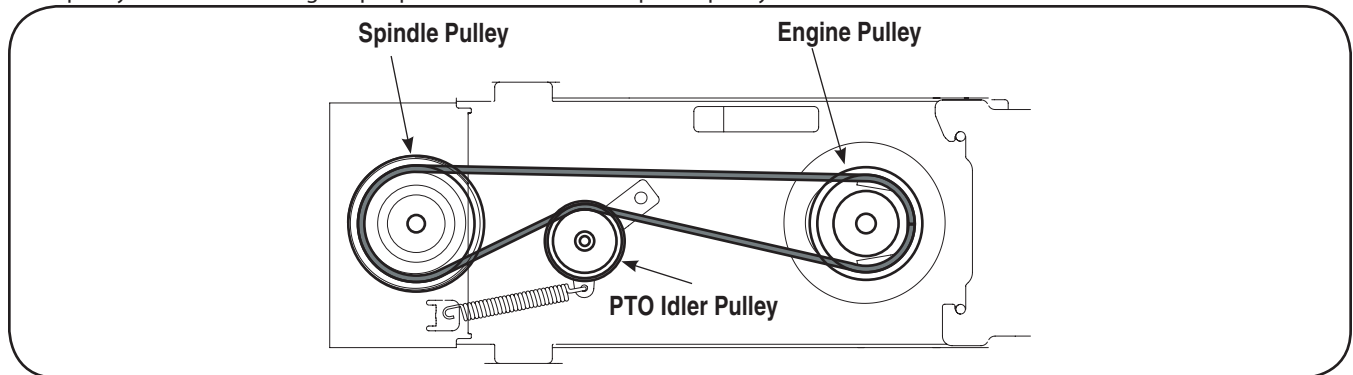

Figure 3-18
1. Attach and route upper drive belt around spindle pulley and idler pulley found on undercarriage, electric PTO clutch and PTO idler pulley as illustrated in Fig. 3-18. Make sure that the belt is routed to the **INSIDE** of the belt keeper on the undercarriage idler pulley and the remaining keeper pins found around the spindle pulley.